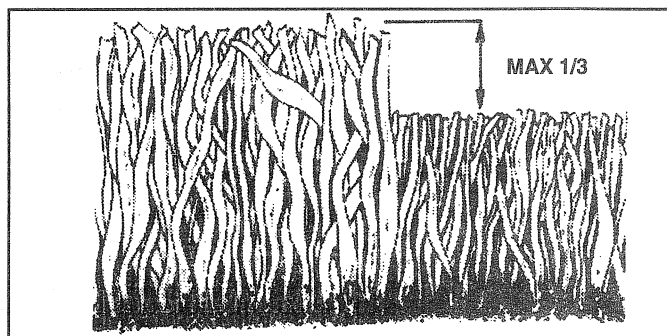

FIG. 13
- For best results, adjust the mower cutting height so that the mower cuts off only the top one-third of the grass blades (See Fig. 13). For extremely heavy